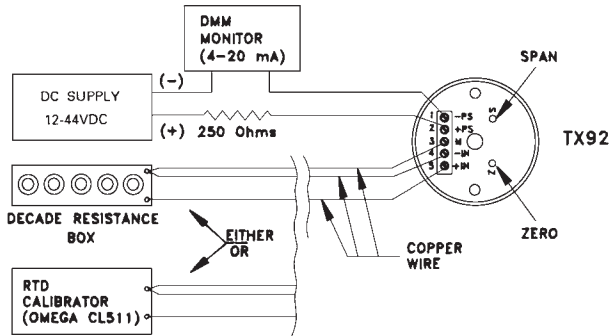

Figure 4-1. TX92 RTD Calibration Set-Up.
4.2 Calibration Procedures (Refer to Figure 4-1)
Connect the calibration equipment according to Figure 4-1. Standard copper test leads are used with RTD instrumentation.